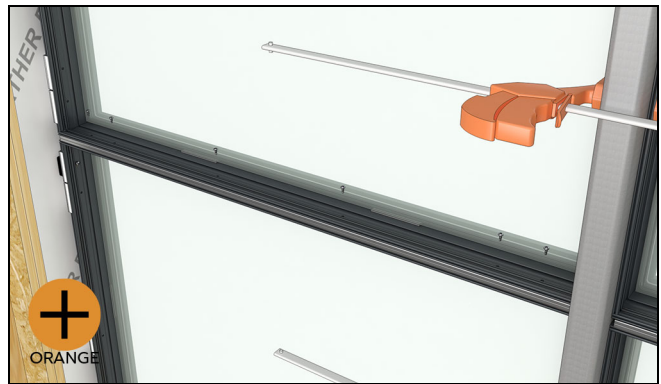

Figure 146
31. Fasten the A2 to B2 unit with a standard mull and the 8 x 7/16" Phillips head screws. See Figure 146.